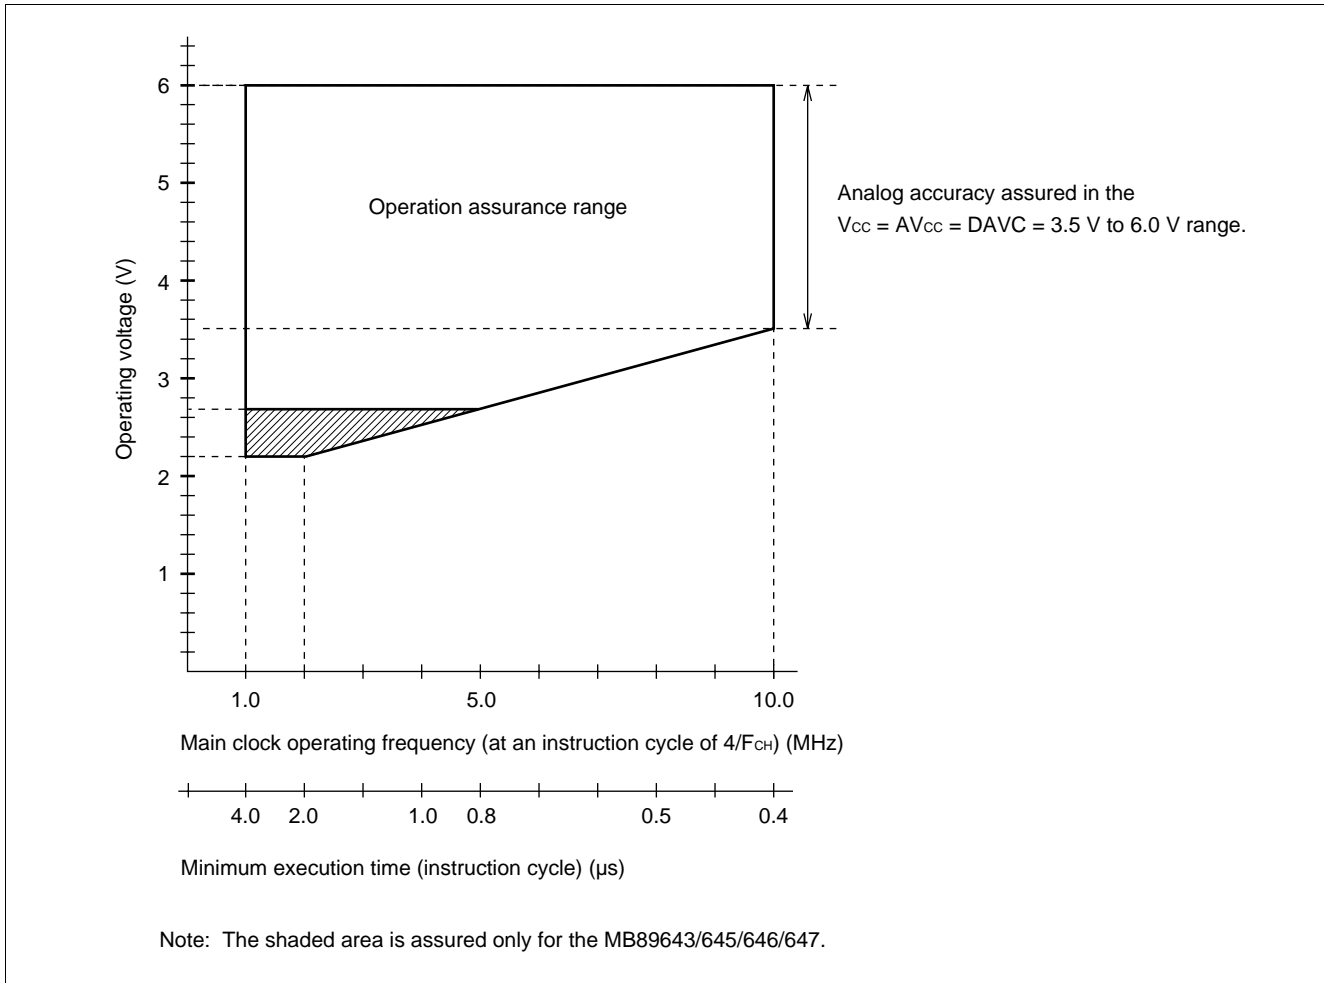

Figure 1 Operating Voltage vs. Main Clock Operating Frequency
* : These values vary with the operating frequency and analog assurance range. See Figure 1, “5. A/D Converter Electrical Characteristics,” and “6. D/A Converter Electrical Characteristics.”
Figure 1 indicates the operating frequency of the external oscillator at an instruction cycle of $4/F_{CH}$.